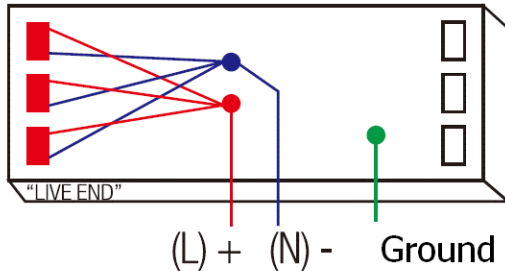

FIGURE 2
- 7) When wiring more than one lamp, connect Line (Black) Leads from all lamp holders together, and Neutral (White) Leads all lamp holders together (See Figure 2).